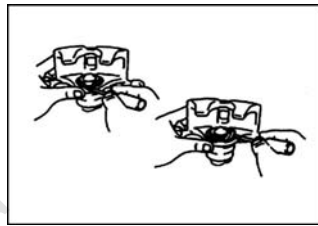

Fig. 2-66
12) Remove the oil seal of piston. Take out the oil seal from the slave cylinder. See Fig. 2-66.